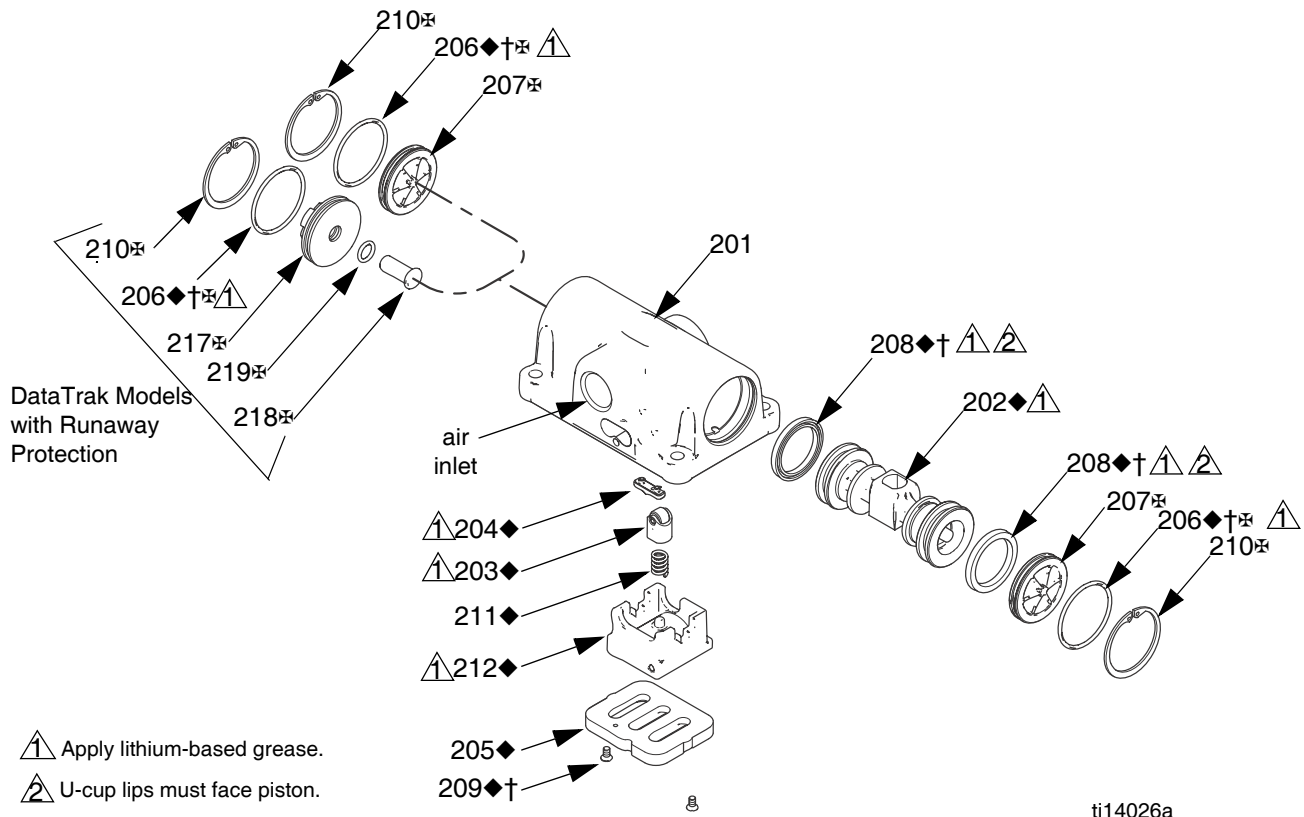

FIG. 4. Air valve assembly
2. See FIG. 4. Use a Torx screwdriver (T8 for aluminum centers, T9 for plastic centers) to remove two screws (209). Remove the valve plate (205), cup (212), spring (211), and detent assembly (203).
3. See FIG. 4. Remove the retaining ring (210) from each end of the air valve. Use the piston (202) to push the end caps (207, 217) out of the ends. Remove end cap o-rings (206). If pump model is equipped with a runaway protection solenoid, also remove the solenoid release button (218) and o-ring (219).
4. Remove the u-cup seals (208) from each end of the piston (202), then remove the piston. Remove the detent cam (204) from the air valve housing (201).